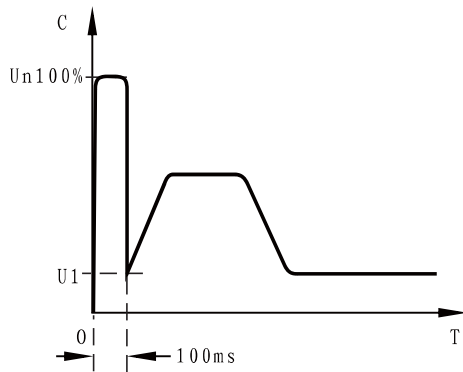

Figure 12-3-1
- a) The soft starter will be under kick starting mode when code F9 is set to 2(kick+ current limiting) or 3(kick + voltage). Figure 12-3-1 and 12-3-2 show the output change wave of the kick starting mode. In some occasions with heavy load, this starting mode can be used when the motor fails to be started due to effect of the mechanical static friction force. During start, apply a relatively high fixed voltage to the motor for a limited period to overcome the static friction force of the motor load to rotate the motor, then the motor will be started in the current limiting or fixed voltage ramp method.